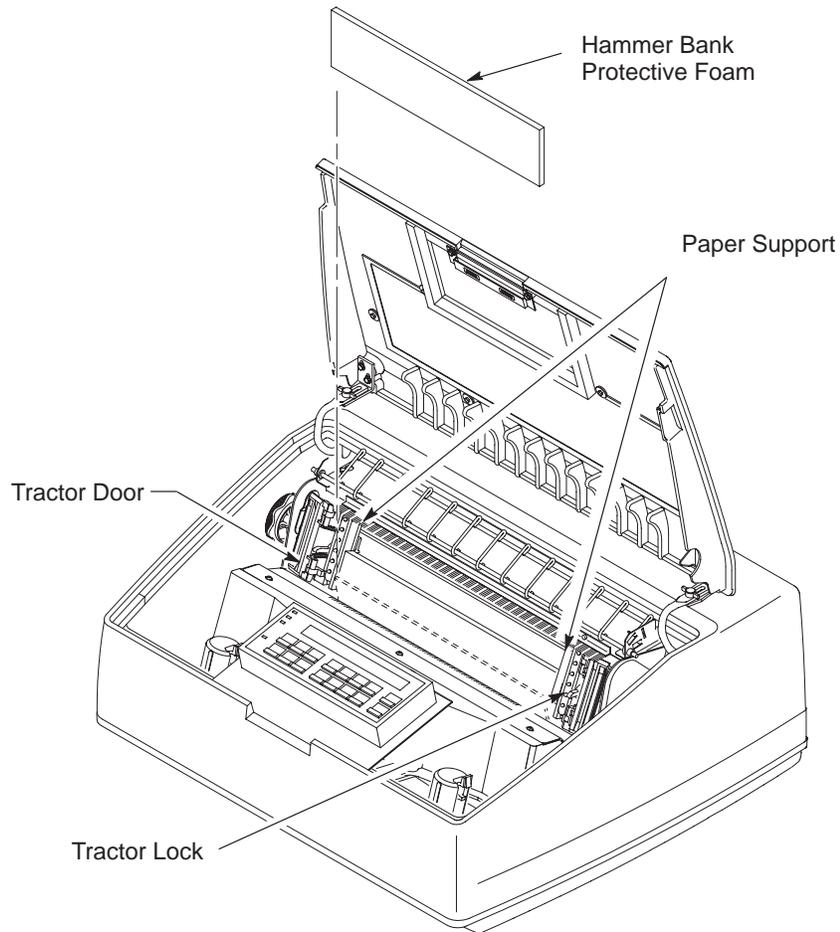

Figure 2–11. Removing the Hammer Bank Protective Foam
1. Open the tractor doors. Push the tractor locks down. Slide the tractors and paper supports outward as far as they will go. (See Figure 2–11.) The forms thickness lever should be raised (in the fully open position).